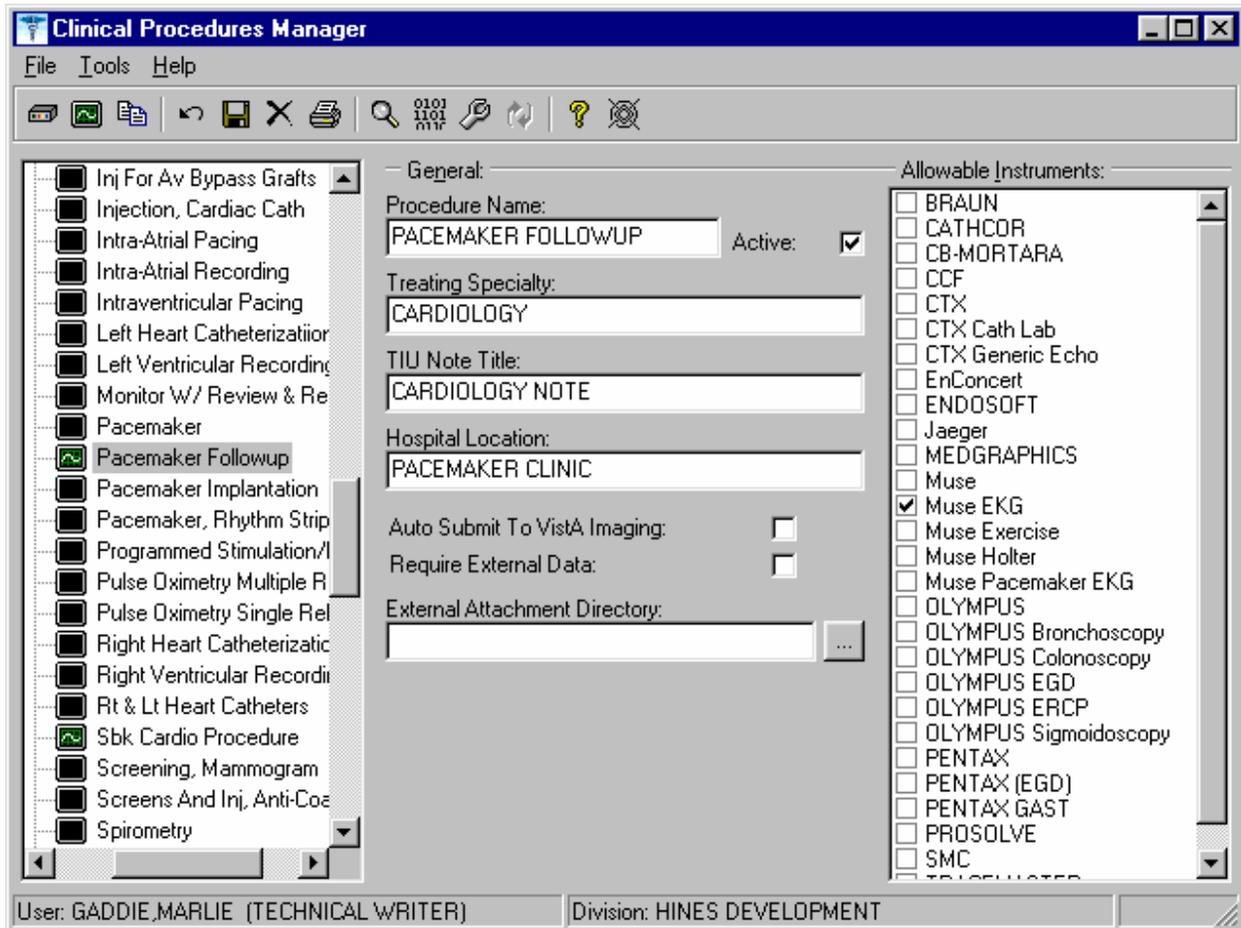

Fig. 6-6
1. View the list of procedures. See Fig. 6-6.
After you complete the edits, if you entered the name in upper case, the procedure name that you just entered is displayed in title case, Pacemaker Followup, (the first letter of every word is capitalized), in the left side of the CP Manager window. See Figure 6.6.